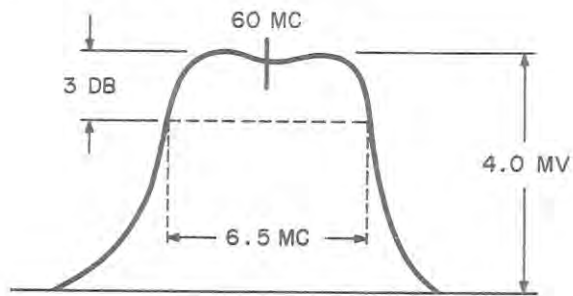

Figure 5-12. 490-1000 Mc RF Tuner, IF Response Waveform at J2.
- t. Adjust L12 and L13 on the SH-204-5 module for a maximum symmetrical response centered around the marker. Refer to Figure 5-12.